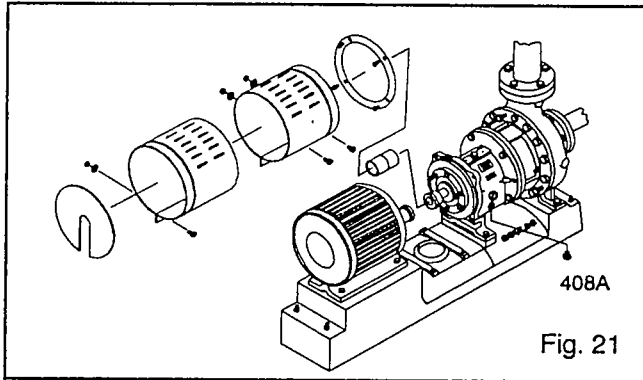

Fig. 21
7. If oil lubricated, drain oil from bearing frame by removing bearing frame drain plug (408A). Replace plug after oil is drained. Remove oil reservoir, if equipped (Fig. 21).